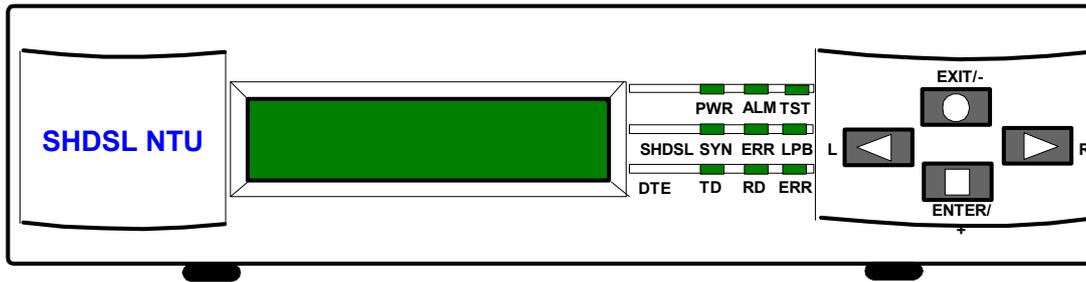

Figure 2.1
Front panel can be separated into three parts: (1)LCD (2) keypads (3) LEDs (refer to figure 2.1).